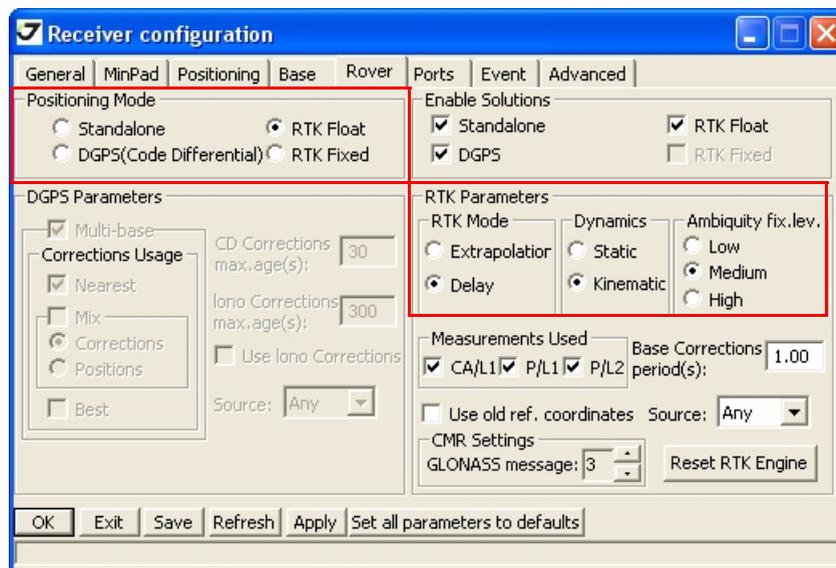

Figure 3-17. Rover Configuration
8. For the Rover receiver, click the *Rover* tab and set the following parameters, then click *Apply* (Figure 3-17 on page 58).